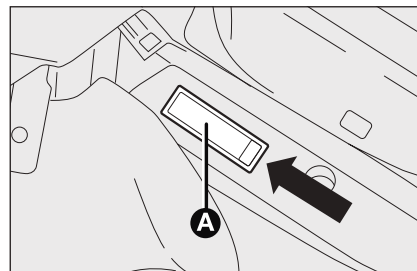

fig. 35
- ☐ using the screwdriver provided, extract the ceiling light **A-fig. 35** working in the specified point;